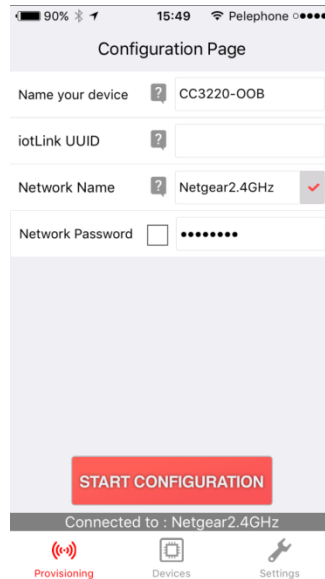

Figure 12. Wi-Fi Starter Provisioning Tab
2. Navigate to the provisioning tab to configure the AP credentials. Click on the START CONFIGURATION button to start the process (see Figure 12).